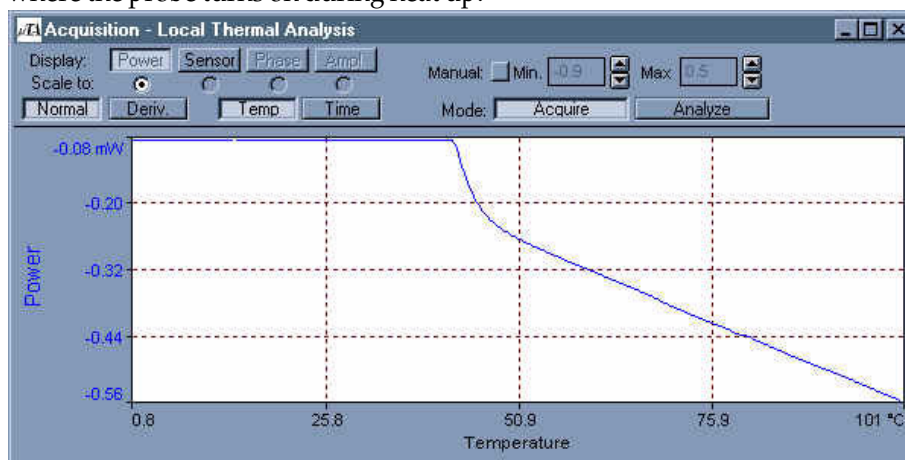

Figure 4.8
Figure 4.8 shows the μ DTA results of an air run after calibration with a **Hysteresis Offset** value of "0." There is a large jump in power at the point where the probe turns on during heat up.
7. After the data has been collected, compare the μ DTA results with those in Figures 4.8 through 4.11. Make the appropriate changes in the Hysteresis Offset value.